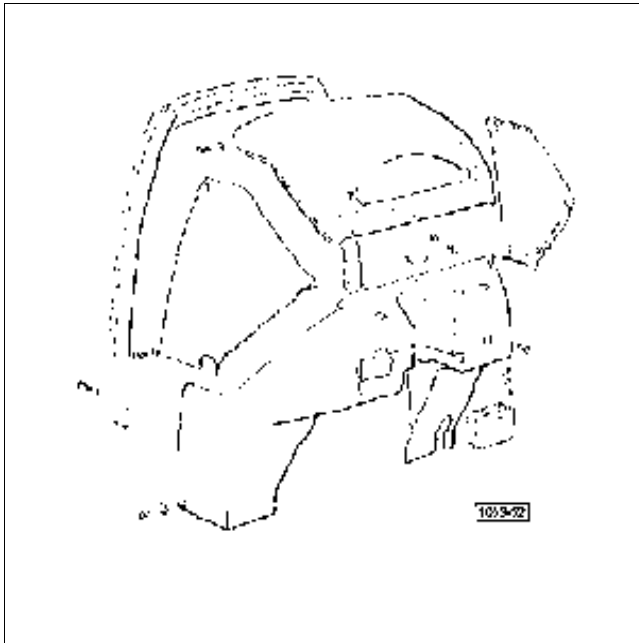

Fig. 1 - Internal claddings of instrument panel.
Access the **"Machine type"** menu, use the [↓] key (6, Fig 1) to select the type of tractor, and press [←] (8, Fig 1) to confirm.
Press **"INFO/PAR"** (9 fig. 1) to return to the previous menu.
The factory setting is metric. If imperial is necessary or preferred, select **"unit of measure"** from the **"PARAMETERS"** menu and press [←] (8, Fig 1).
A new video page will appear: use [↓] (6, Fig 1) to select METRIC or IMPERIAL, and press [←] (8, Fig 1) to confirm. Press **"INFO/PAR"** (9, Fig 1) to return to the previous menu.
This allows adjustment of the BLACK-and-WHITE contrast on the display screen. To effect the adjustment, access the **"PARAMETERS"** menu, select **"CONTRAST"** and press the [←] key (8, Fig 1) to confirm. A set of numbers and bars will be displayed on the screen. The preferred level of contrast is obtained by pressing [↓] (6, Fig 1) to reduce or [+] (7 Fig. 1) to increase.
Press [←] (8, Fig 1) to confirm, then **"INFO/PAR"** (9, Fig 1) to return to the previous menu.
When power is supplied to the system, pressing the "INFO/PAR" key (9, Fig 1) will bring up a video page showing essential information about the type of program installed.